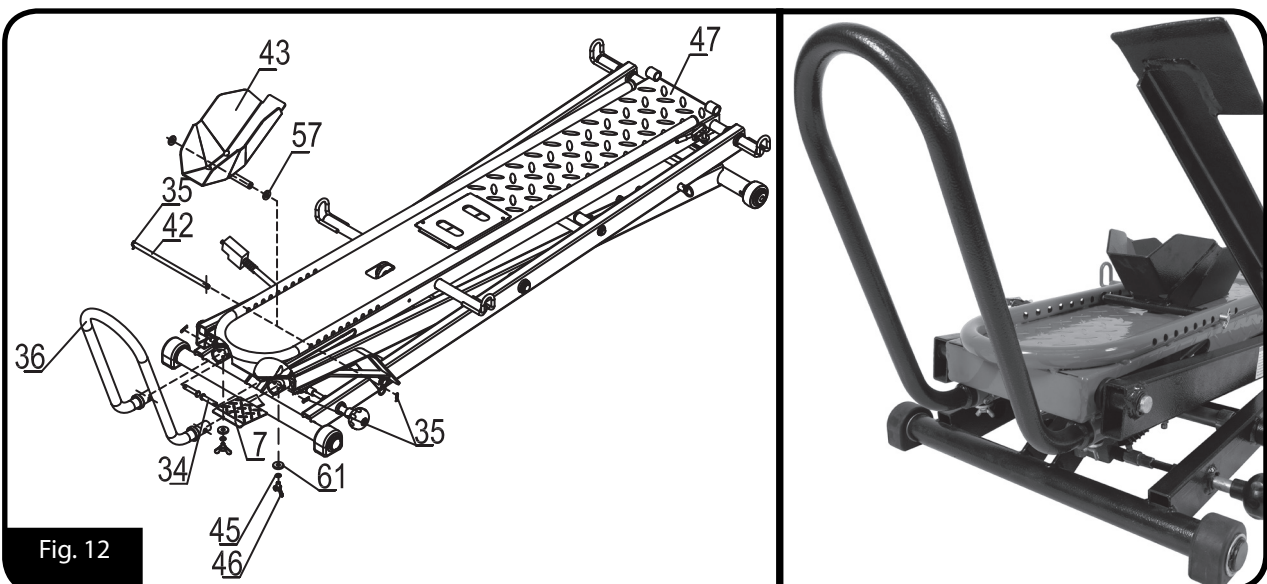

Fig. 12
STEP 2: Attach Front Wheel Loop and Front Wheel Chock (Fig.12)